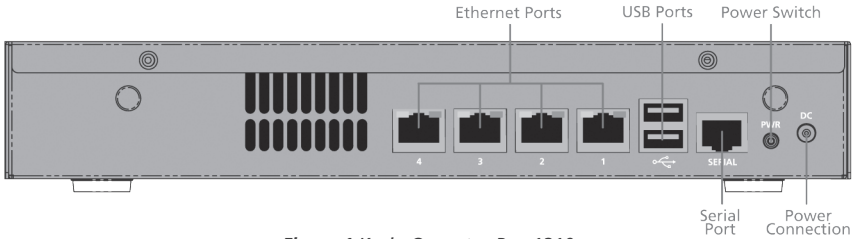

Figure 1 Kerio Operator Box 1210
- Kerio Operator 1000 Series — Sub 1U table mountable appliance (see figure 1).